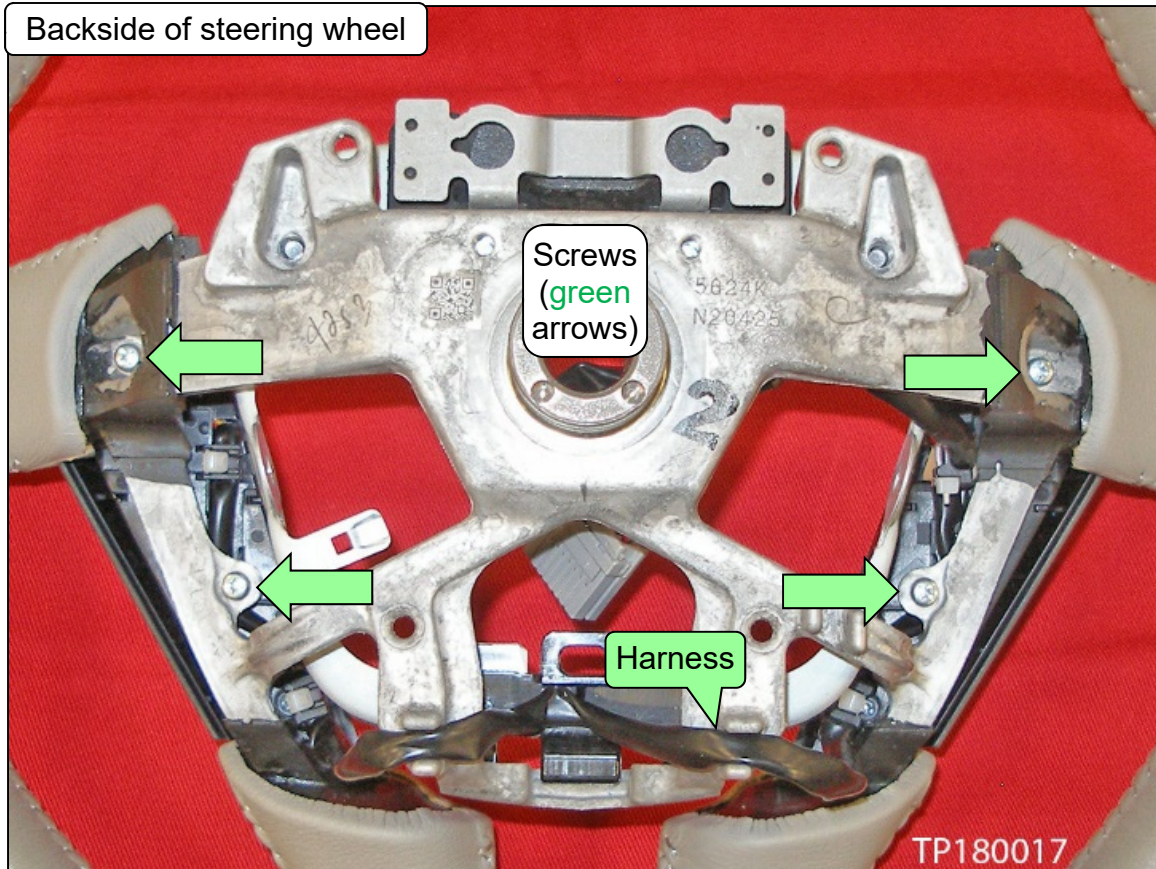

Figure 6
8. Remove the four (4) screws holding the steering wheel switches (see Figure 6).
9. Detach the electrical harness from the steering wheel, and then remove the steering wheel switches (see Figure 6).